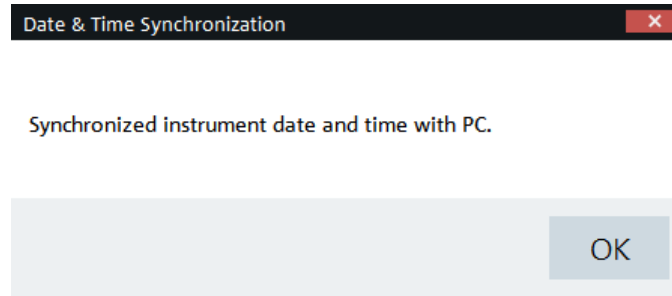

Figure 5-22: Date and time synchronization
- ▶ Select "OK" to confirm the " Date and Time" synchronization. See Figure 5-22.